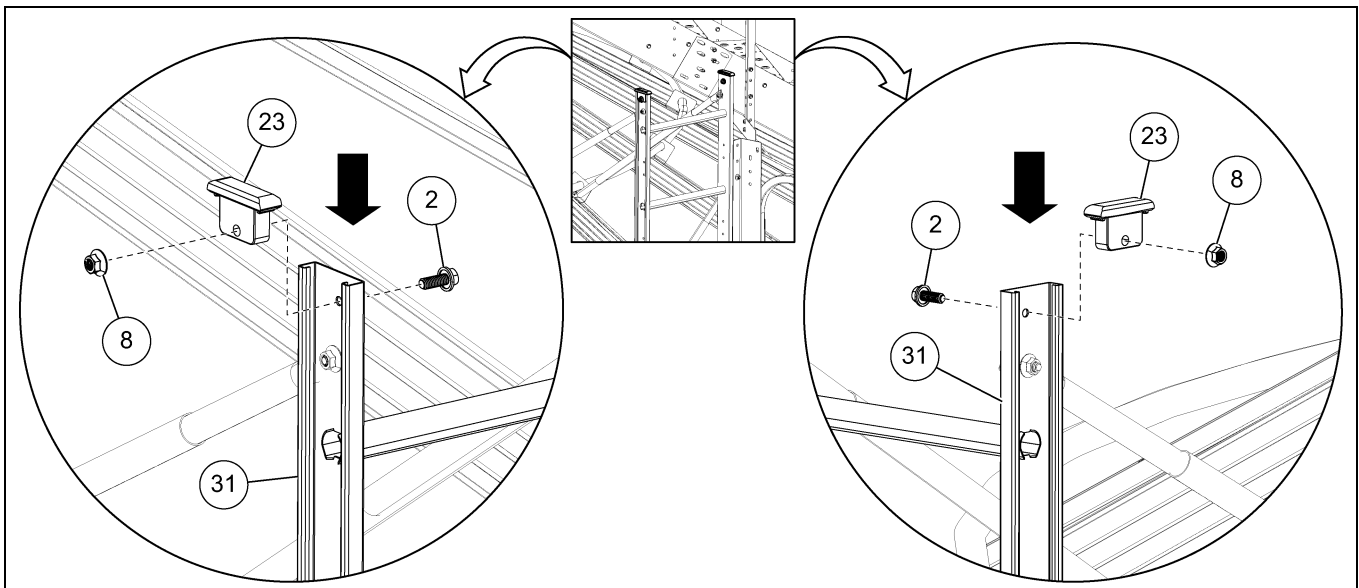

Figure 7F Installing the End Caps
1. Install the end caps (23) to both the left and right side of the ladder (31) by snapping the end caps (23) onto the top of the ladder (31). *(See Figure 7F.)*
2. Secure the end caps (23) in place using 5/16" x 1" flange bolt (2) and 5/16" flange nut (8).